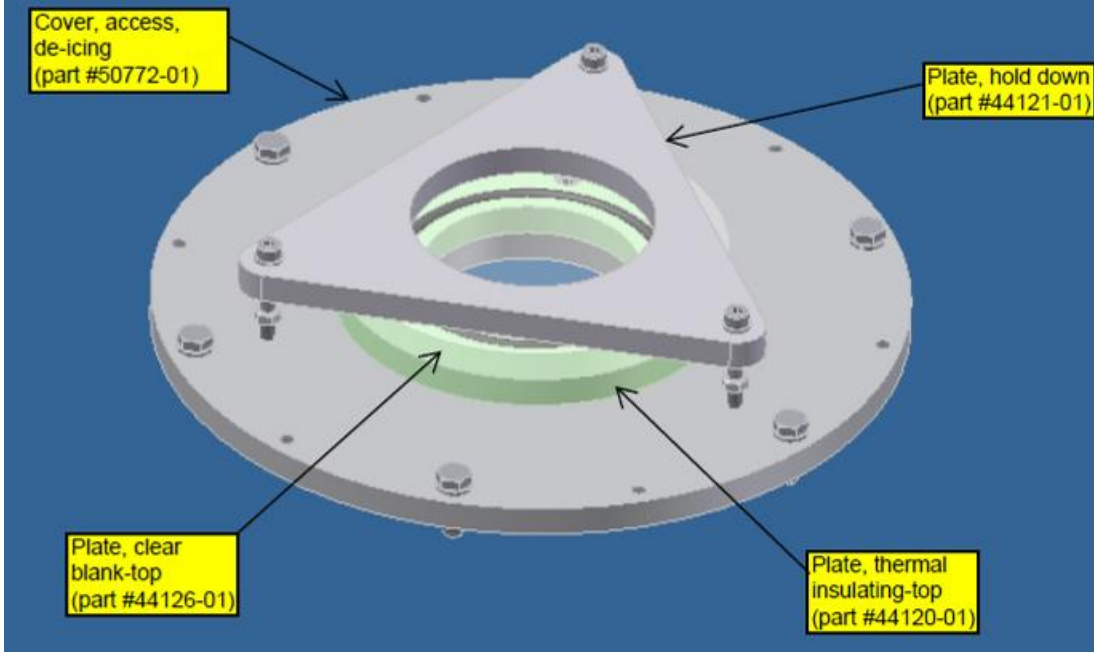

Figure 7-1A.
2. Replace the top plate with the appropriate de-icing plate assembly either Figure 7-1A or 7-1B or 7-1C.